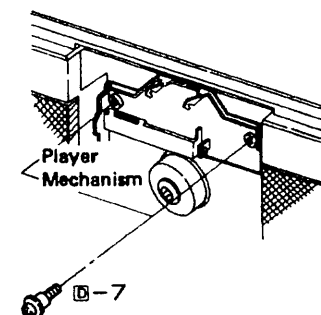

Figure 5-3
7. Remove two screws at the player mechanism. See Fig. 5-3. Shifting the player mechanism a little forwards, remove the leads from the wire holder, then the player mechanism can be taken out — at the time, take care not to break the leads of the PWB-E2 which is still attached to the unit.